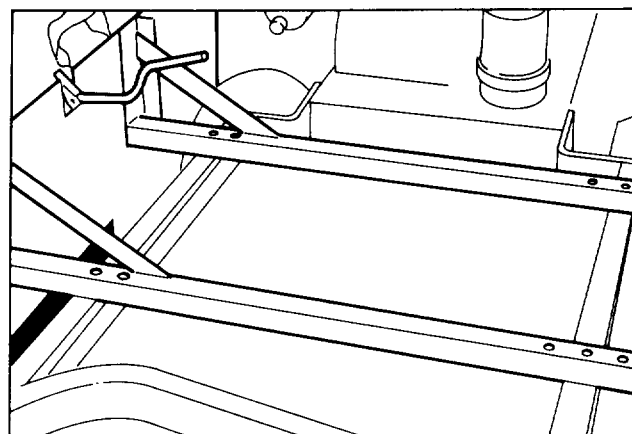
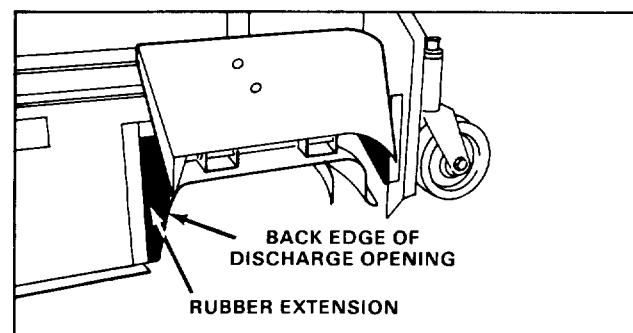

Figure 3
Figure 4
2. Position back panel and mounting beam assembly onto cutting deck and carrier frame, aligning appropriate mounting holes with carrier frame (Fig. 3). Rubber extension should be touching back edge of discharge opening (Fig. 4).